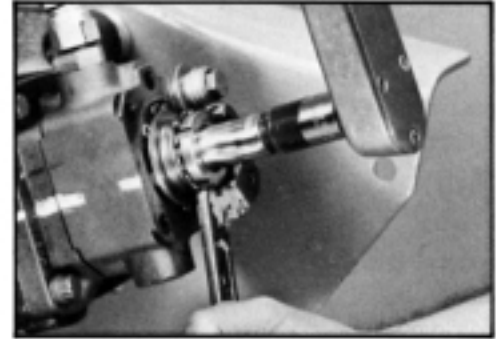

Figure 34
3.9 Torque the bearing lock nut (9) to 30 ft. lbs. (41 N m) to ensure components are seated. Back the nut off and torque nut to 15-20 ft. lbs. (20-27 N m). SEE FIGURE 34. Back nut off approximately 20 degrees and bend one tang of bearing lockwasher (10) firmly into a mating slot in lock nut. SEE FIGURE 35.